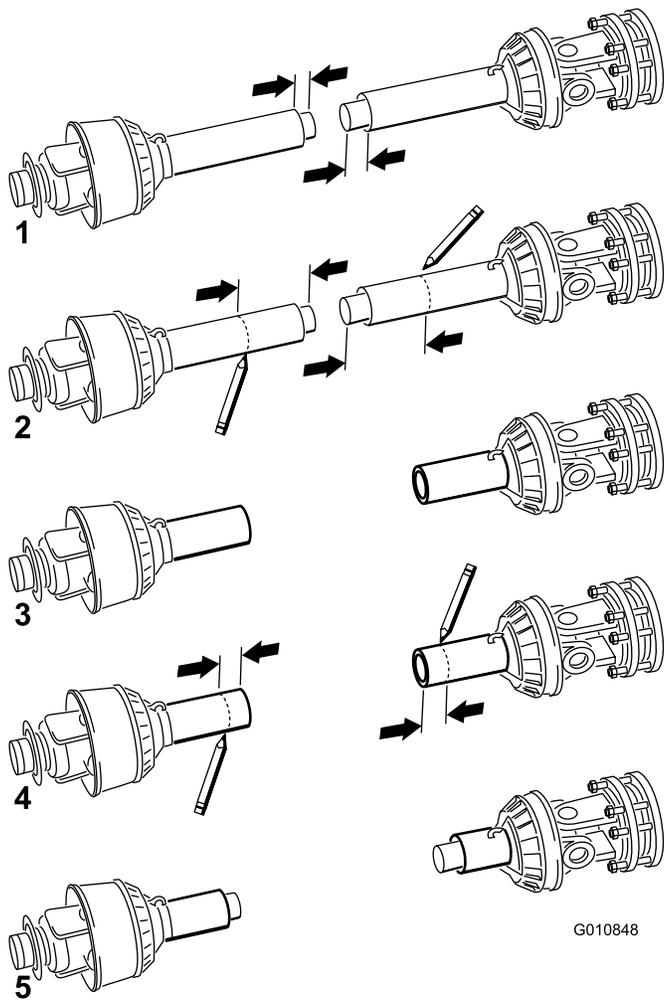

Figure 18
11. Separate the two halves of the PTO shaft (Figure 18, illustration 1).
12. Measure the distance from the end of each tube to its safety shield (Figure 18, illustration 1). Record the distances.
13. Using the dimensions determined in step 8, locate, mark and cut off the shield and tube from each PTO half (Figure 18, illustrations 2 & 3).
14. Using the dimensions determined in step 11, locate, mark and cut off just the safety shields to expose the tubes Figure 18, illustrations 4 & 5.